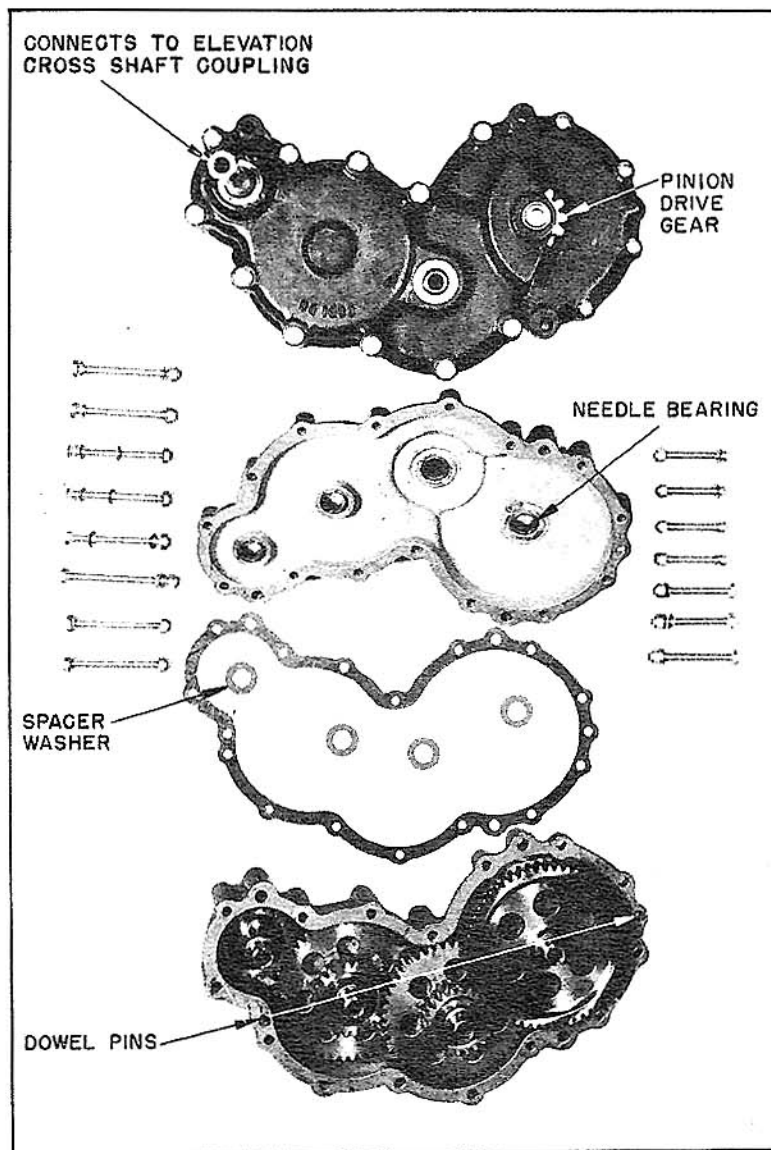

FIGURE 18
1. Elevation Gear Boxes. - (1) (See Figures 18 and 19.) The moving parts of the gear box will be accessible when the cover is removed. When lifting off the cover, take particular care not to injure the dowel pins. If the dowel pins are moved out of alignment, ream the holes and insert the next larger size dowel pins.
(2) Inspect the needle bearings and oil seals and replace where necessary.
(3) If the pinion drive gear is damaged, use a 1/4" rod through the hole in the gear shaft and push out needle bearing to expose the end of shaft. Press large gear from pinion. This gear is held to shaft by spline only. When reassembling, put 2 washers on either side of pinion gear to prevent injury in replacing.